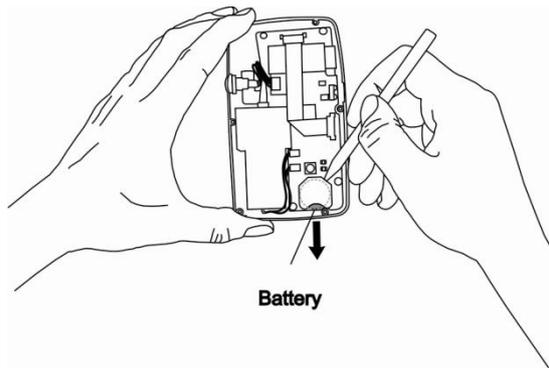

Fig. 10
- Change the Lithium-cell as shown in Fig. 10.